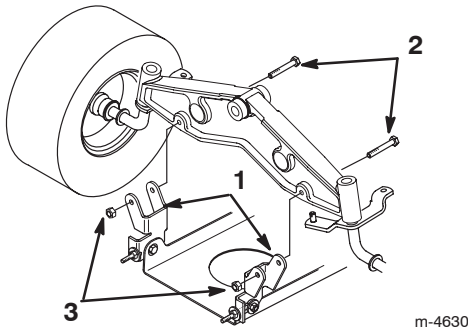

Figure 39
- Remove the bolts and lock nuts and pull the two mower pivot mount brackets down from the front axle (Fig. 39).